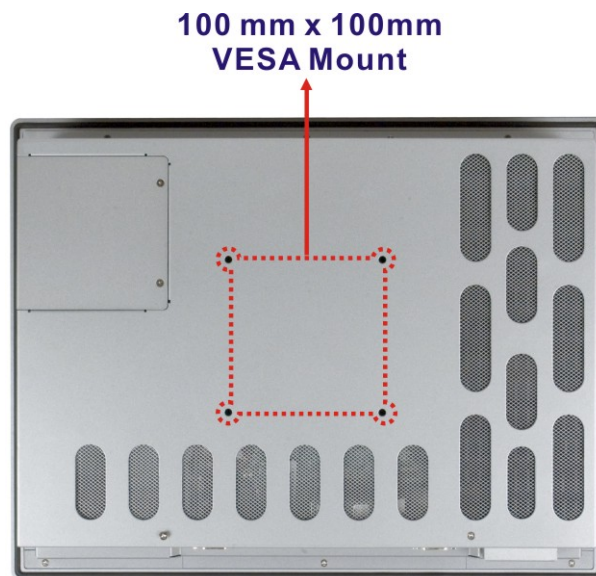

Figure 3-12: Arm Mounting Retention Screw Holes
- Step 3:** Align the retention screw holes on the mounting arm interface with those in the panel PC. The arm mount retention screw holes are shown in **Figure 3-12**.